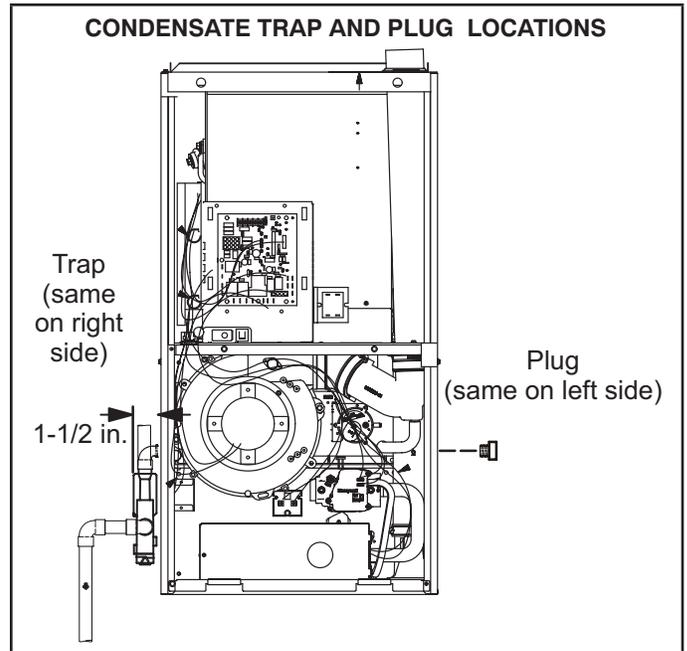
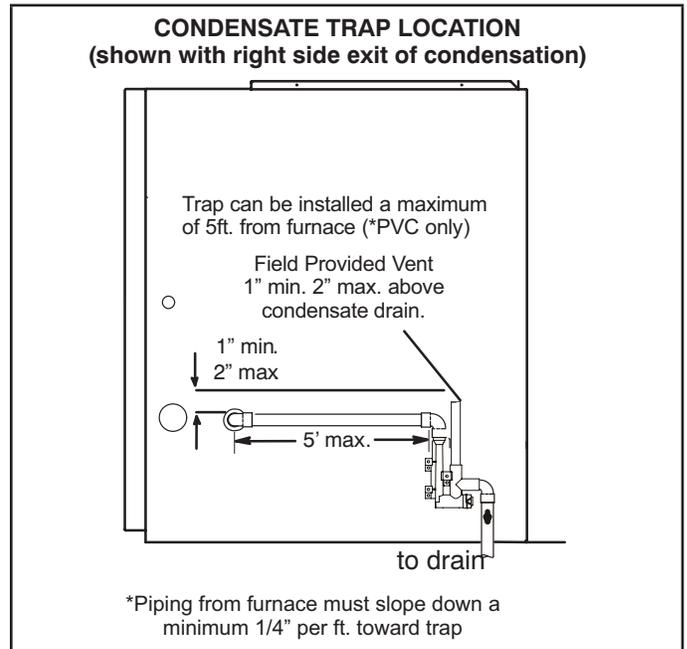

FIGURE 45
FIGURE 46
This unit is designed for either right- or left-side exit of condensate piping. Refer to FIGURE 45 and FIGURE 46 for condensate trap locations.
- 2 - Use a large flat head screw driver or a 1/2" drive socket extension and remove plug (FIGURE 45) from the cold end header box at the appropriate location on the side of the unit. Install provided 3/4 NPT street elbow fitting into cold end header box. Use Teflon tape or appropriate pipe dope.